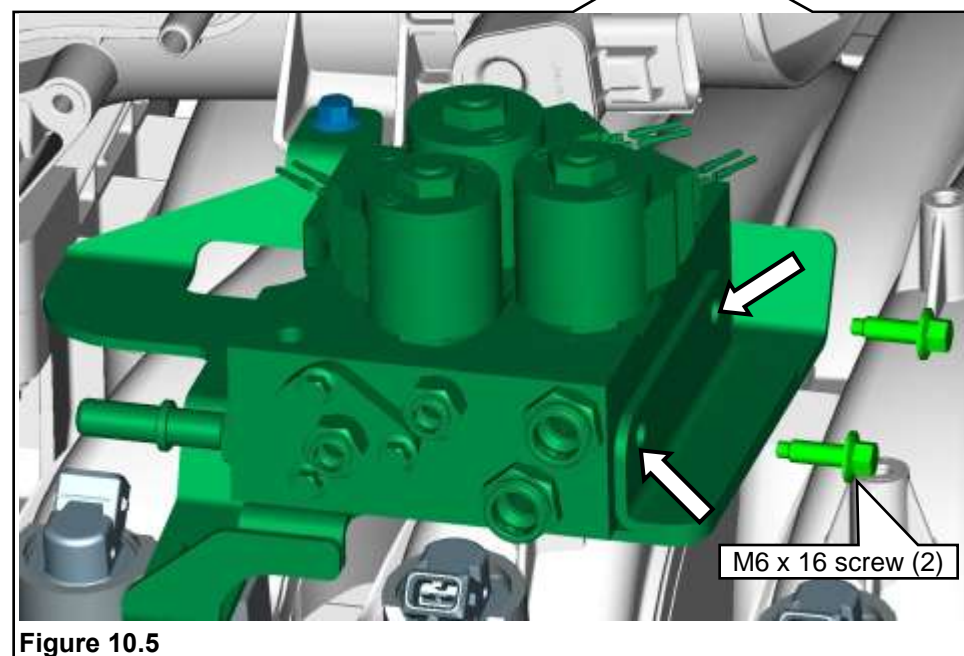

Figure 10.5
4. Loosely install two M6 x 16 bolts into the front bracket of the FRPCM. **Figure 10.5.**
6. Install the upper front bolt through the SRM bracket and into the fender. Tighten the upper front fender bolt to specification. **Note:** Leave the battery tray bolt out until after the underhood electrical harness has been installed. Install the bolt when the battery tray is installed and tighten to 18–21 Nm. **Figure 10.5.**